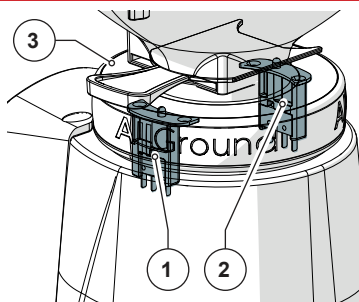

Fig. 7
- **2 microswitches to detect the ring nut position (Fig. 7)**